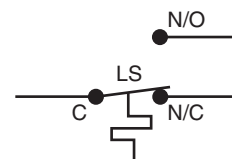

Figure 4. SPDT limit switch
An example of an SPDT limit switch (LS) is shown in Figure 4. When there is an increase in temperature, the contacts “C” to “N/C” move to the “N/O” position. When the temperature decreases, the contacts “C” to “N/O” move back to the “N/C” position.